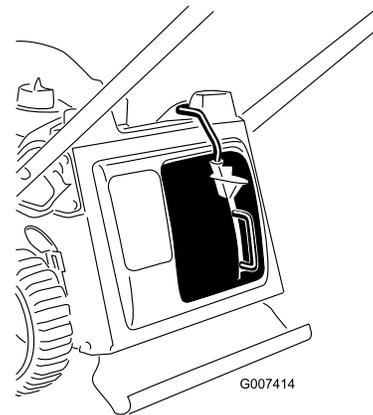

Figure 10
3. Release the button on the lever and ensure that the top of the lever is lies fully in the switch channel (Figure 10). **If the top of the lever is not in the switch channel, your mower will not start!**